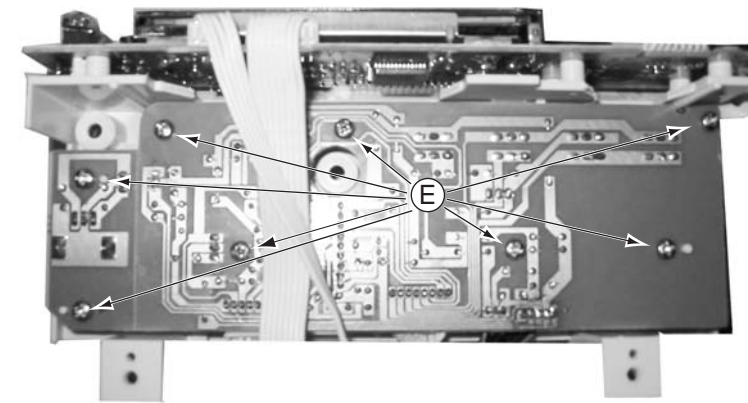

Figure 8
3) Loosen 7 screws "E" on the button bottom of the key board 2 as shown in figure 8.